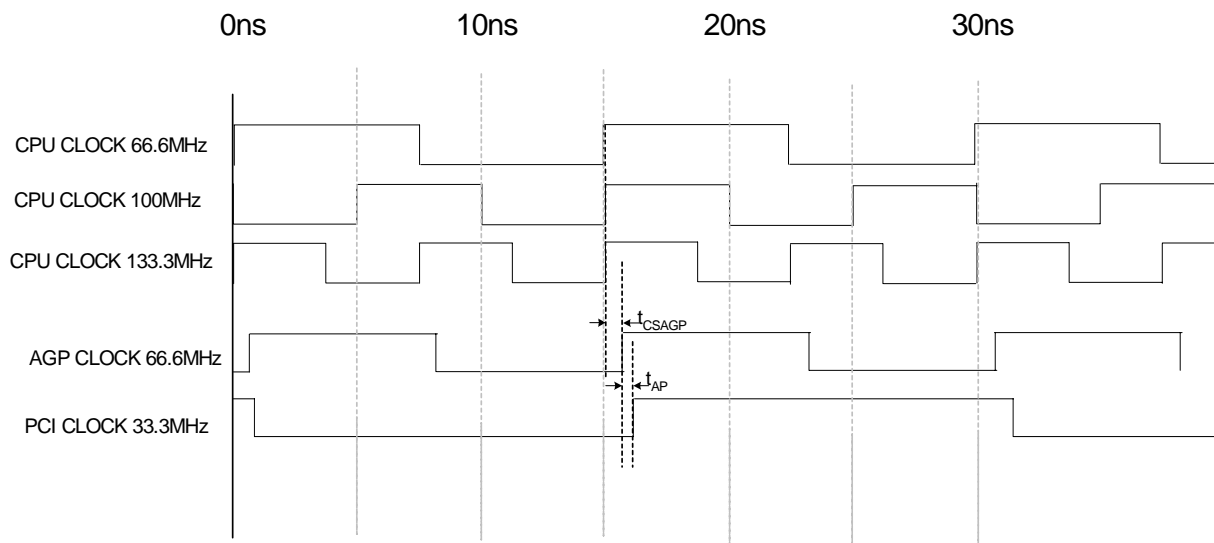

Figure 6. Clock Timing Relationships
22. See figure 6 for 0.7V loading specification.